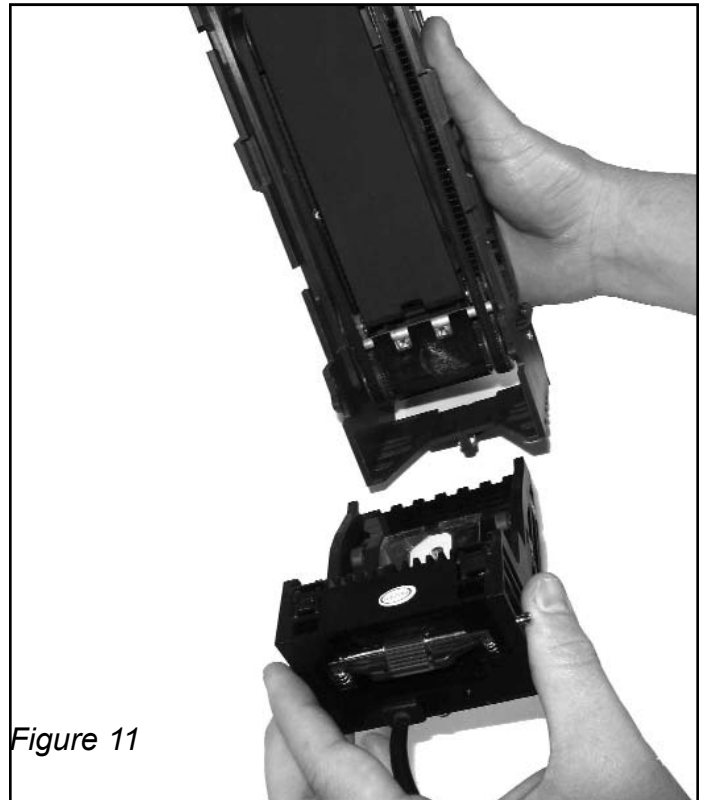

Figure 11
1. At the bottom and rear of unit, push down on red tab and pull out bottom sensor assembly. (Figure 11)